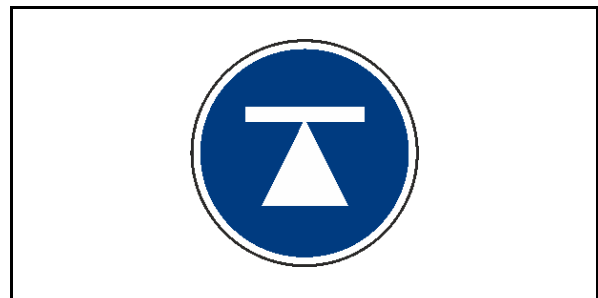

Fig. 149
2. Lift the machine at one of the marked application points (Fig. 149).